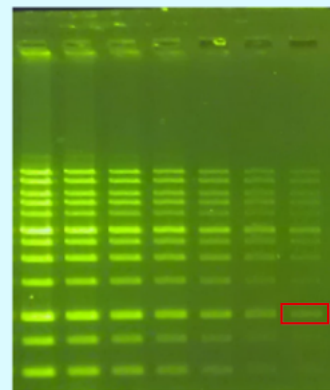

Fig. 1
The Novel Green provides an easy 2-step method to stain the DNA band from DNA electrophoresis. This unique reagent ensures the DNA to be stained with a high sensitivity and good quality. Novel Green is a next-generation DNA-binding dye ideal for use in quantitative real-time PCR (qPCR) and many other applications. We designed the dye by taking into consideration several essential dye properties relevant to PCR, including PCR inhibition, safety, and stability and fluorescence spectra of the dye. Ethidium bromide (EtBr), which presents sensitivity for detecting 1-5 ng double-stranded DNA (dsDNA) in the agarose gel analysis, has been the most common dye for nucleic acid gel staining. However, several drawbacks of EtBr have been understood, including that EtBr is a mutagen/carcinogen and presents a high risk of inducing cancer. Furthermore, the ultraviolet (UV) light used to illuminate EtBr-DNA compounds probably results in skin or eye damage to the user if misconduct. It's also noted that exposure to the UV light might cause chemical modifications of the DNA samples in the gel, such as the formation of TT dimers, leading to challenge with the subsequent DNA manipulations. The Novel Green shows a high sensitivity bound with DNA (Fig.1), it also brings a more reliable and safer experience of use, since the stained gel can be visualized with the blue-light transilluminator, thus avoiding the risk of skin/eye damage as well as reducing the side effects of DNA modification caused by the UV light.
Fig. 1 The 1Kb DNA Ladder (250-10,000 base pairs, Cat. No. DM010-R500, GeneDireX) was 2X serial diluted (from 2 to 128 dilution, and the concentration of the red mark is 0.72 ng/ 5ul) and loaded in the 1% agarose gel. After electrophoresis, the gel was stained with Novel Green for 10 minutes. The gel was observed the blue-light transilluminator.
The Novel Green *Plus* provides an easy 2-step method to stain the DNA band from DNA electrophoresis. This unique reagent ensures the DNA to be stained with a high sensitivity and good quality. Novel Green *Plus* is a next-generation DNA-binding dye ideal for use in quantitative real-time PCR (qPCR) and many other applications. We designed the dye by taking into consideration several essential dye properties relevant to PCR, including PCR inhibition, safety, and stability and fluorescence spectra of the dye. Ethidium Bromide (EtBr), which presents sensitivity for detecting 1-5 ng doublestranded DNA (dsDNA) in the agarose gel analysis, has been the most common dye for nucleic acid gel staining. However, several drawbacks of EtBr have been understood, including that EtBr is a mutagen / carcinogen and presents a high risk of inducing cancer. Furthermore, the ultraviolet (UV) light used to illuminate EtBr-DNA compounds probably results in skin or eye damage to the user if misconduct. It's also noted that exposure to the UV light might cause chemical modifications of the DNA samples in the gel, such as the formation of TT dimers, leading to challenge with the subsequent DNA manipulations. The Novel Green *Plus* shows a high sensitivity bound with DNA (Fig.1 ), it also brings a more reliable and safer experience of use, since the stained gel can be visualized with the blue-light transilluminator, thus avoiding the risk of skin/eye damage as well as reducing the side effects of DNA modification caused by the UV light.